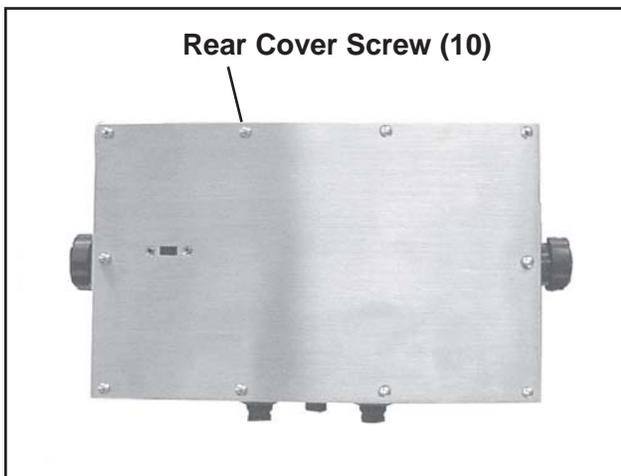

Figure 37. Removing Display Console Rear Cover
3. With a small Phillips screwdriver and a 5mm nut driver, remove the ten screws that hold the rear cover onto the display console chassis (Figure 37).